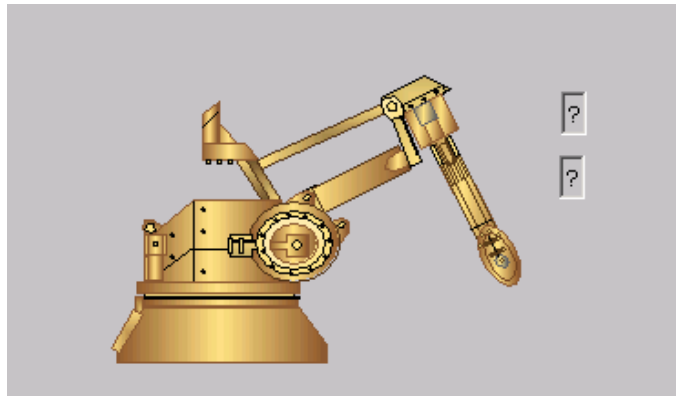

Figure 5.10. Two Duplicate Process Points Next to the Meter
6. The process point is inserted into the display, as shown in **Figure 5.10**. Now duplicate the process point either by choosing the **Copy/Paste** or **Duplicate** commands from the **Edit** menu or by holding down the **CTRL** key as you drag the object. Place this second process point below the first one, as shown in Figure 5.10.